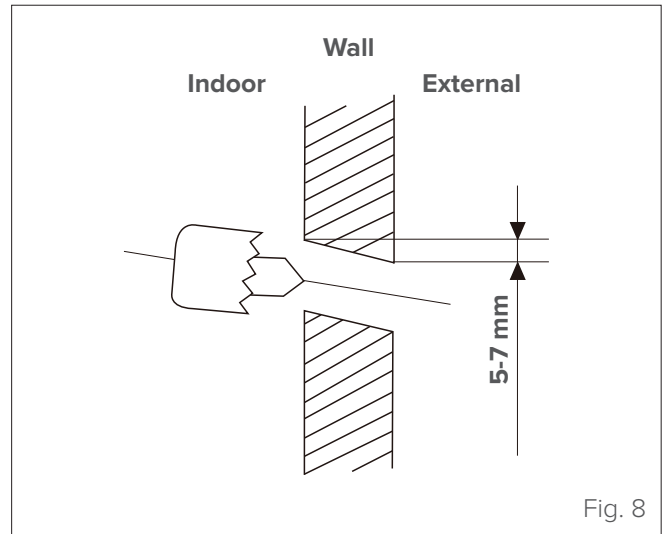

Fig. 8
- 1 Determine hole position according to the position of the mounting plate. To help you choose the optimal position, refer to point “Mounting plate dimensions”. The hole in the wall should have a minimum diameter of 65 mm (90 mm for 70M models) and a slight downward slope to facilitate drainage (see “Fig. 8”).